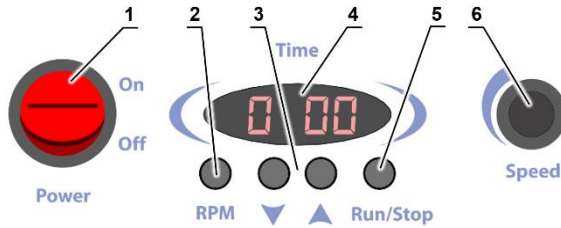

Figure 1. MR-1, control panel
- 5.1.1 Connect the external power supply to a grounded mains outlet. Switch **on** the **Power** switch (fig. 1/1). Display powers up (fig. 1/4)
- 5.1.3 **Setting time.** Using **▲** and **▼** keys (fig. 1/3), set the necessary time interval in hours and minutes (step 1 minute), as shown on the display (fig. 1/4). If a key is held down for long time, values change faster.
- 5.1.4 **Setting speed.** Using the **Speed** knob (fig. 1/6), set the necessary shaking speed. When turning the knob or pressing the **RPM** key (fig. 1/2), the display (fig. 1/3) shows speed in rockings per minute (RPM).
- 5.1.5 Press the **Run/Stop** key (fig. 1/5). Platform begins movement and timer starts counting elapsed time, for values below 1 hour- in minutes and seconds (mm:ss), above 1 hour – in minutes (hh:mm). Speed can be changed during operation.